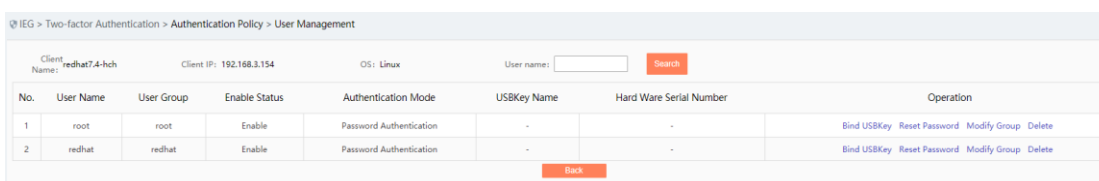

Fig.4-77 User Management Interface
- 7) User management in the client operation column for Linux, click <User Management> to enter the user management page at the client. (As shown in Fig.4-77):